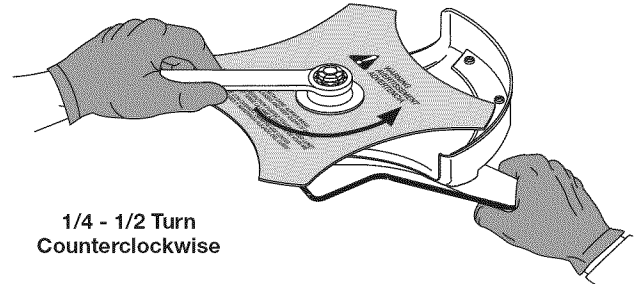

Fig. 17
- Without a torque wrench, use a 5/8 inch closed-end or socket wrench. Turn the nut until the blade retainer is snug against the shaft bushing. Make sure the blade is installed correctly, then rotate the nut an additional 1/4 to 1/2 turn counterclockwise (Fig. 17).